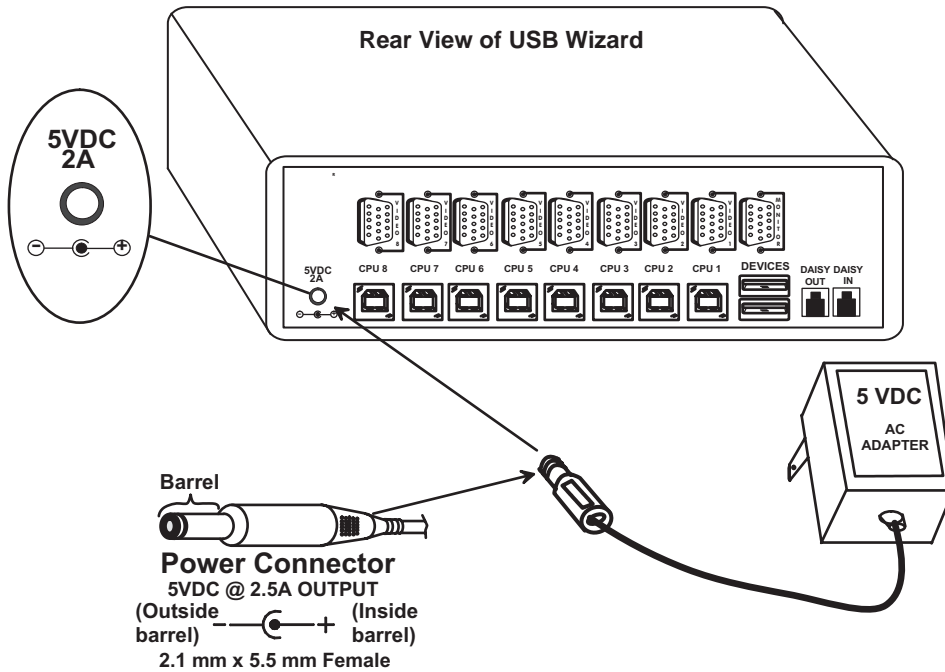

Figure 3- Connect the AC adapter
- Power-up the USB Wizard. (See Fig. 3 below.)